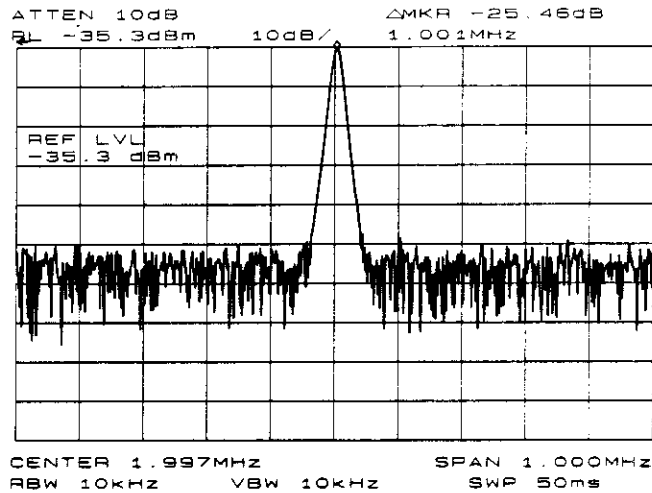

Figure 3-6. Second harmonic displayed in dBc.
- To measure the second harmonic, press **(MKR)**, **(MARKER DELTA)**, **(FREQUENCY)**, and the step up **(▲)** key. This step retunes the spectrum analyzer center frequency to the second harmonic. Adjust the harmonic to the reference level. (Note that the **(MARKER -> REF LVL)** function is not available in marker-delta mode.) This displays the amplitude of the second harmonic as shown in Figure 3-6. The difference between the second harmonic and the fundamental can be converted to a percentage of distortion using Figure 3-4. Again, units can be changed to volts in order to read the voltage ratio of the two signals.